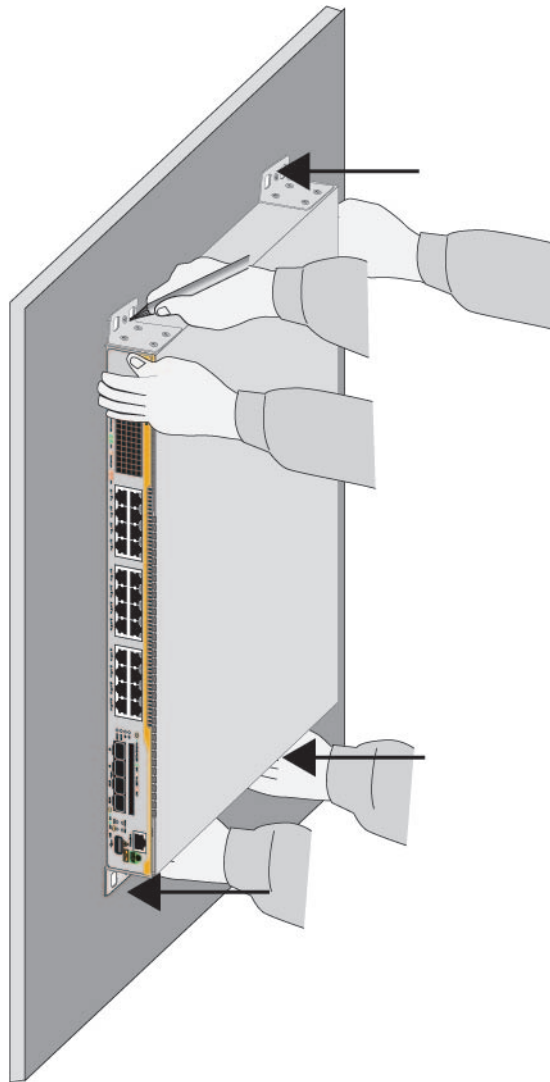

Figure 31. Marking the Locations of the Bracket Holes on a Concrete Wall
3. Have two people hold the switch on the concrete wall at the selected location for the device while you use a pencil or pen to mark the wall with the locations of the four screw holes in the four brackets. See Figure 31.